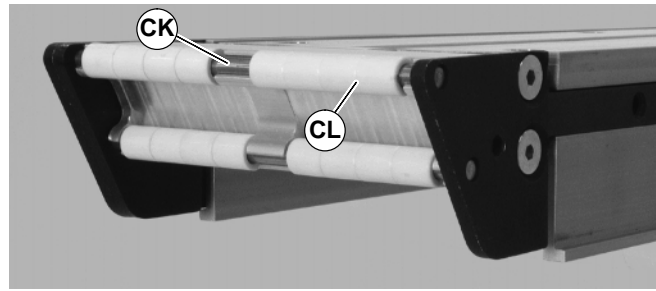

Figure 55
3. Slide bearing rods (CK of Figure 55) out side of conveyor and replace bearings (CL) as necessary.